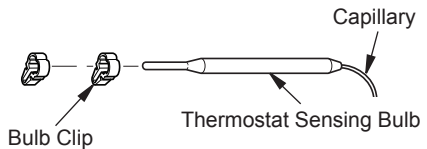

Figure 6 - Moving Thermostat Sensing Bulb
1. Carefully remove bulb clips with thermostat sensing bulb from the shipping position in the back panel, see Figure 6.